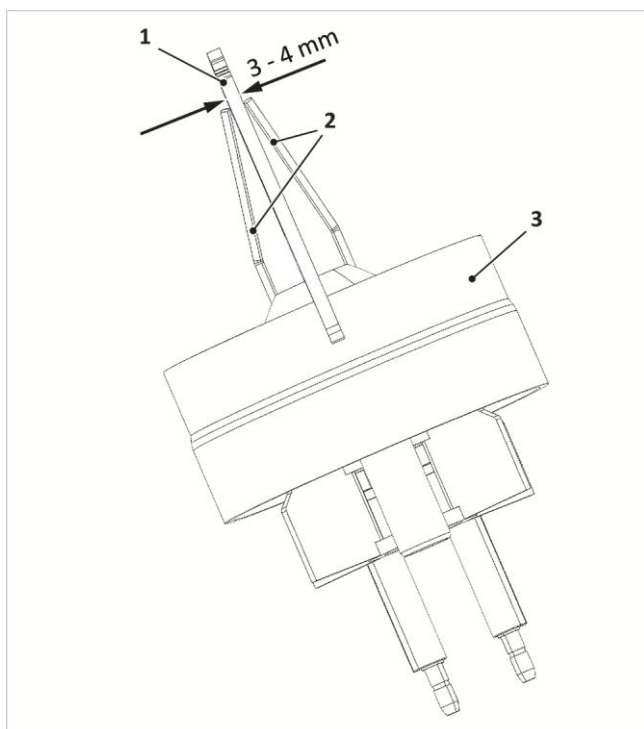

Fig. 151: Checking the ignition electrode gaps
3. Check the electrode gaps as shown in → fig. 151 and correct by bending them, if necessary.